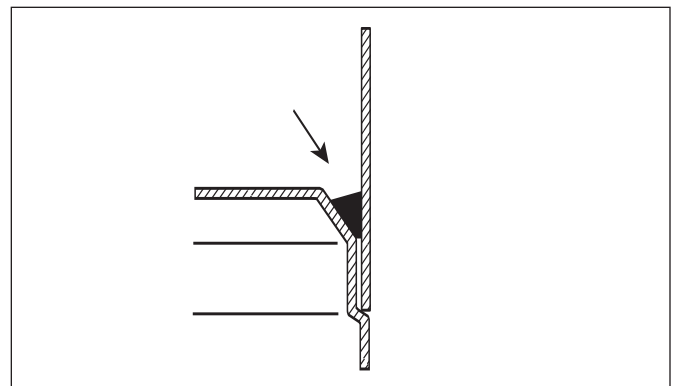

FIGURE 3-1
3.2. Fill the inside groove of the containment sump assembly. (See *FIGURE 3-1*.)